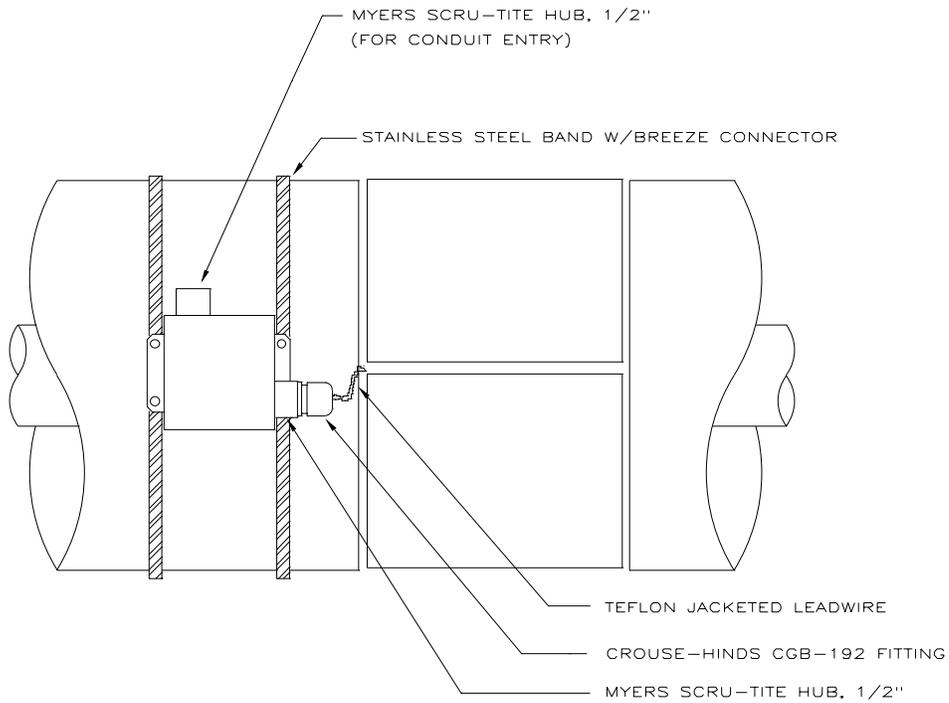

Figure 4
1. Make (2) 1/2" (nominal) knock-outs on the junction box.
2. Cut off (2) pieces of stainless steel banding material; use attached chart for proper length.
5. Install the CGB fitting into one of the hubs (see Figure 4). Do not tighten the cord grip at this time.
4. Insulate the field joint, such that the Teflon jacketed portion of the sensor lead wire exits the insulation through the end of the connector band, as shown in Figure 4.
6. Strap the junction box to the pipe, as shown in Figure 4. Tighten the Breeze connectors, to hold the box firmly in position.